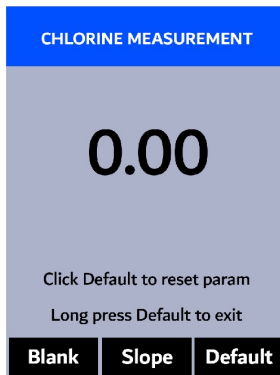

Figure 41.
9. Press **Cal** (  ) to launch the **CHLORINE CALIBRATION** screen (Figure 41).